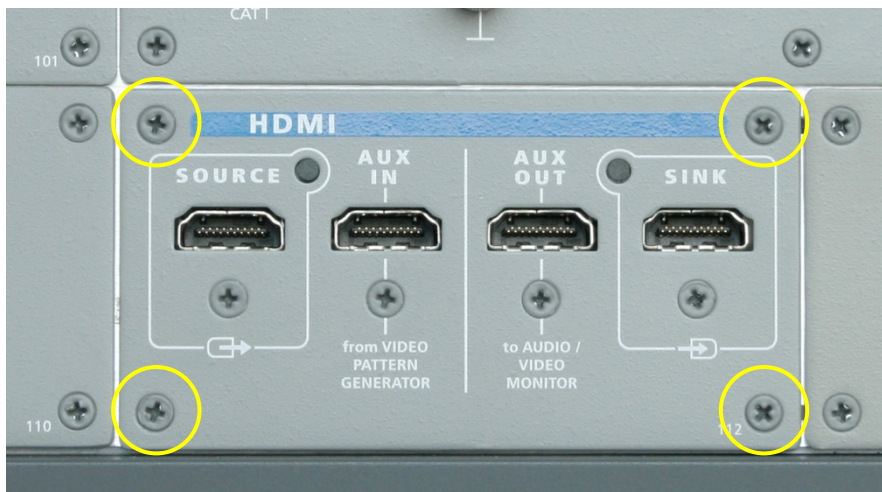

Figure 1 Front panel screws
7. Remove the four screws that secure the HDMI front panel to the instrument, as shown in Figure 1.